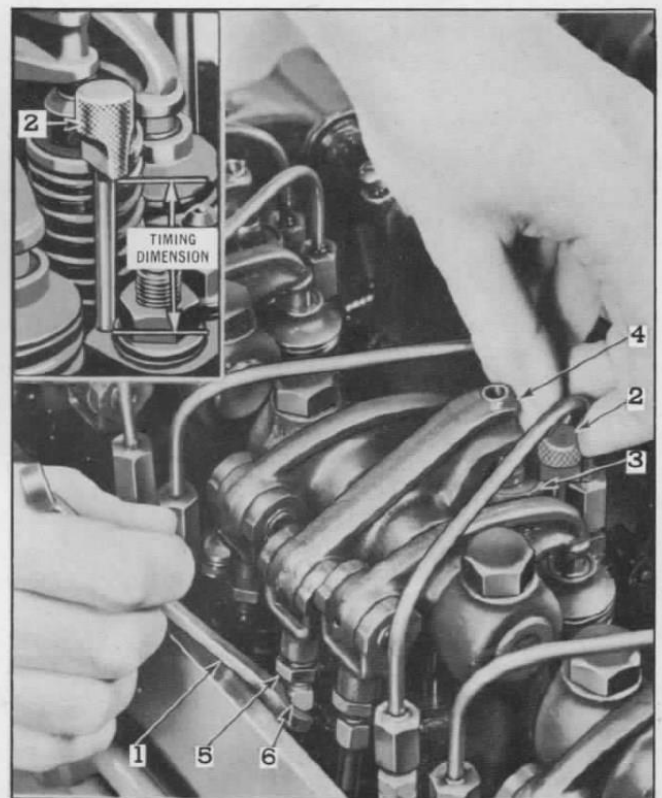

Fig. 31—Timing Fuel Injectors
5. As illustrated in Fig. 31, adjust the position of the injector rocker arm (4) by means of the threaded